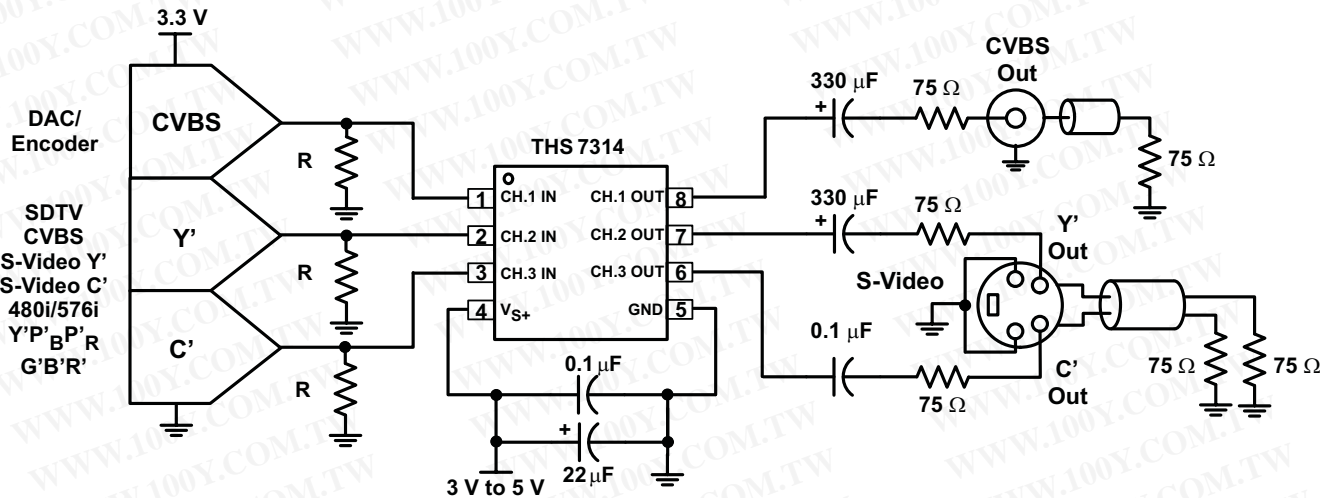

Figure 29. Typical SDTV CVBS/Y'/C' Inputs From DC-Coupled Encoder/DAC With AC-Coupled Line Driving
A typical application circuit using the THS7314 as a video buffer is shown in Figure 29. It shows a DAC (or encoder such as the THS8200) driving the three input channels of the THS7314. Although the S-Video Y'C' channels and the Composite video channel of a Standard Definition video (SD) system are shown, these channels can easily be the Y'PBPR (sometimes labeled Y'U'V' or incorrectly labeled Y'CBCR) signals of a 480i or 576i system. These signals can also be G'B'R' (R'G'B') signals or other variations.